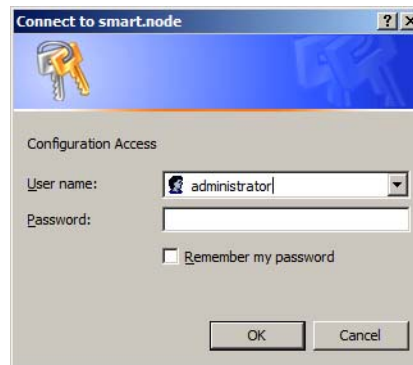

Figure 12. Login window
- The *Connect to SmartNode* window asks you for the login credentials (see figure 12). The factory default login credentials are: